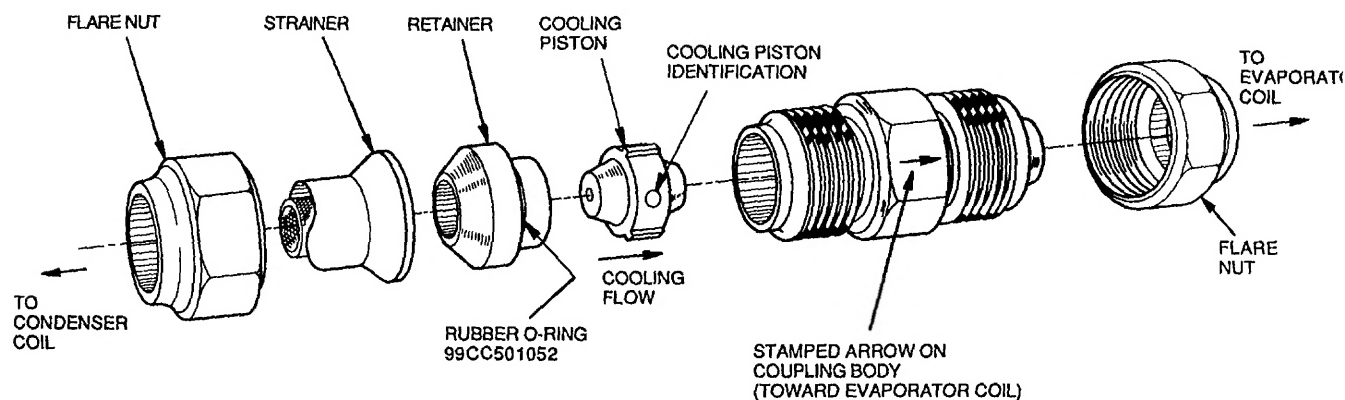

Fig. 16 — Metering Device Components
**Metering Device Servicing** — See Fig. 16 for metering device components. The piston has a refrigerant metering orifice through it. The retainer forms a sealing surface for liquid line flare connection. To check, clean or replace piston: